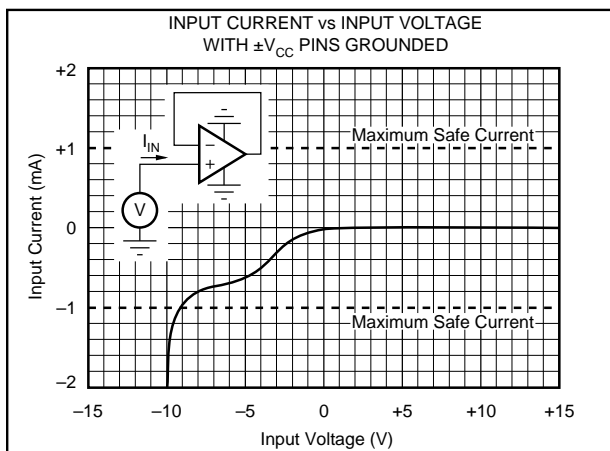

FIGURE 2. Input Current vs Input Voltage with $\pm V_{CC}$ Pins Grounded.
NOTES: (1) Packages must be derated based on $\theta_{JC} = 30^\circ\text{C/W}$ or $\theta_{JA} = 120^\circ\text{C/W}$. (2) For supply voltages less than $\pm 18\text{VDC}$ the absolute maximum input voltage is equal to: $18\text{V} > V_{IN} > -V_{CC} - 8\text{V}$. See Figure 2. (3) Short circuit may be to power supply common only. Rating applies to +25°C ambient. Observe dissipation limit and T_J .
Unlike BIFET amplifiers, the *Difet* OPA404 requires input current limiting resistors only if its input voltage is greater than 8 volts more negative than $-V_{CC}$. A 10kΩ series resistor will limit the input current to a safe value with up to $\pm 15V$ input levels even if both supply voltages are lost. (See Figure 2 and Absolute Maximum Ratings).